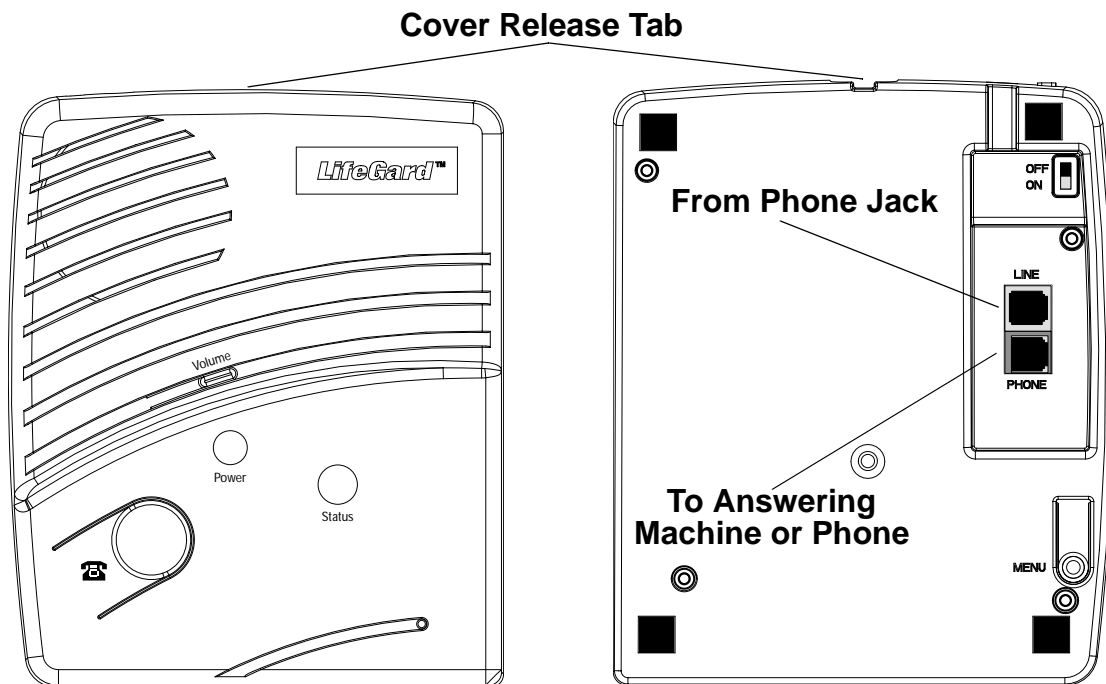

Figure 1. Front and Back of LifeGard system
1. Open the panel cover by lifting on the tab at the top of the panel. (See Figure 1)